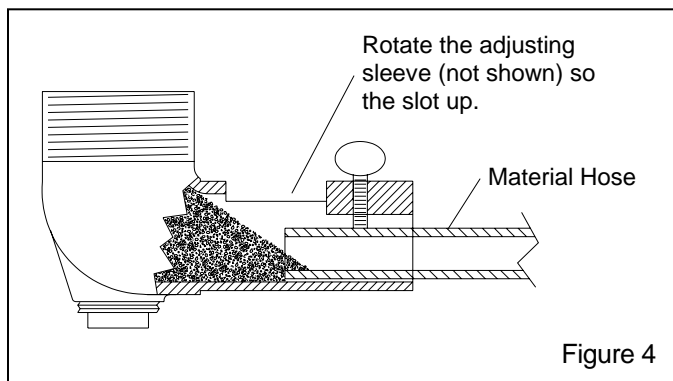

Figure 4
5.2.1 The air to abrasive mixture is controlled by how far the material hose is inserted into the feed elbow. Begin with the material hose inserted into the abrasive leaving the top half of the hose open to air, as shown in Figure 4. To maintain smooth abrasive flow, air must be drawn into the hose with the abrasive.